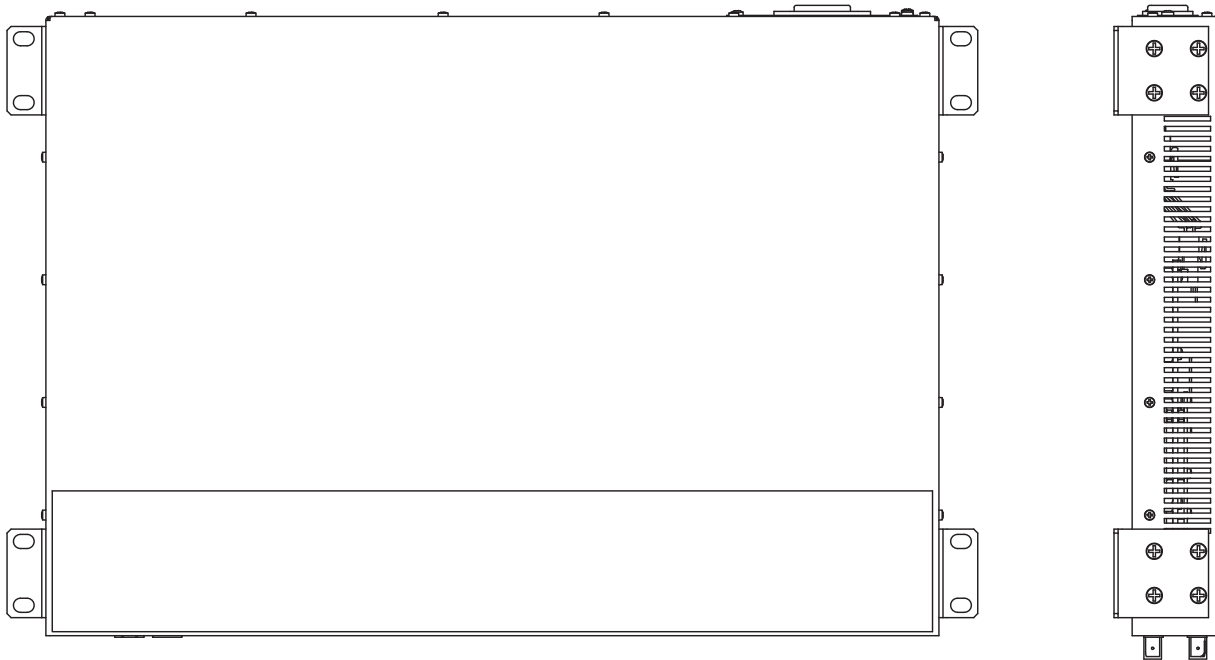

Figure 15: Mounting on a flat surface
- Move the 2 pre-installed mounting brackets on the front side into the position shown in figure 15.
- Attach 2 additional mounting brackets to the back of the device. (see figure 15)
(see figure 15)